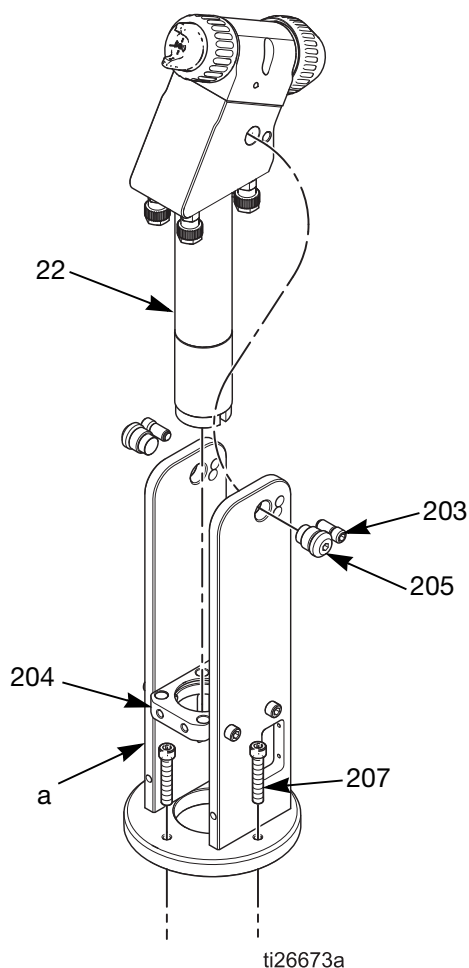

FIG. 9 Bottom Mount Installation
The Bottom Mount Bracket Assembly (24L050) can be purchased separately (includes items 201-207). See FIG. 9.